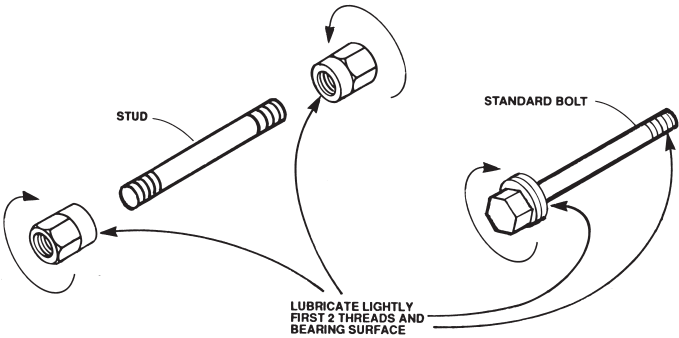

Figure 3.5—Rotation of head bolt and nuts when tightening
6. Set the pressure housing bolts to the appropriate torque values (see Tables 3.2 and 3.3 and Figure 3.5).